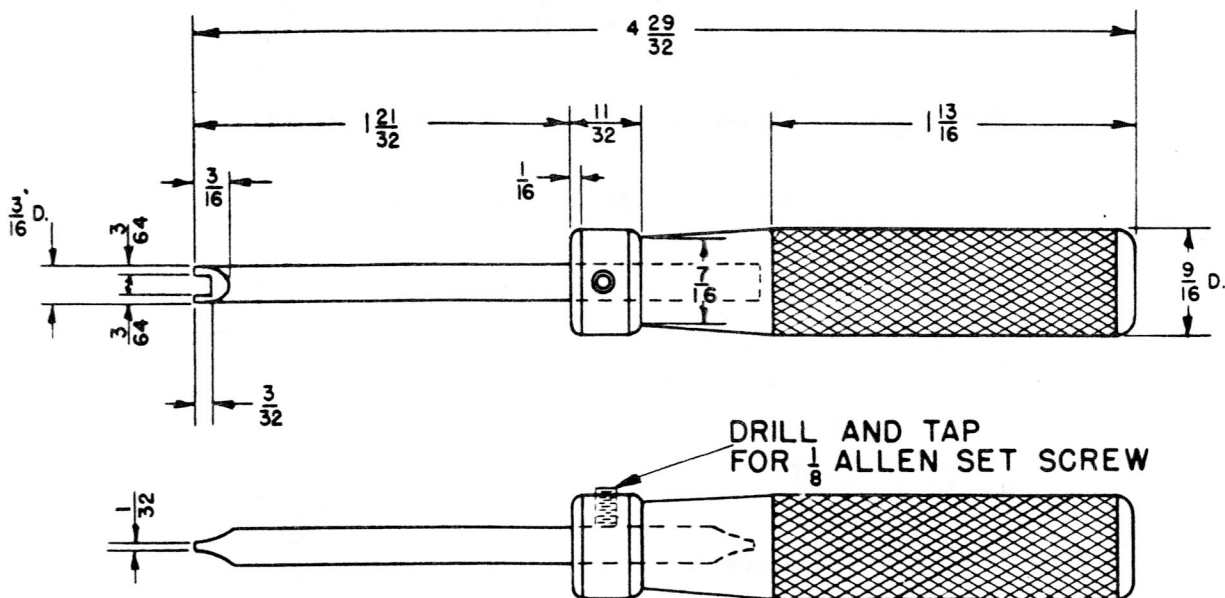

Figure 226—Return Magnet Screw Driver
(1) RETURN MAGNET SCREW DRIVER.—The screw-driver is to be used for adjusting return magnets. (See figure 226.)